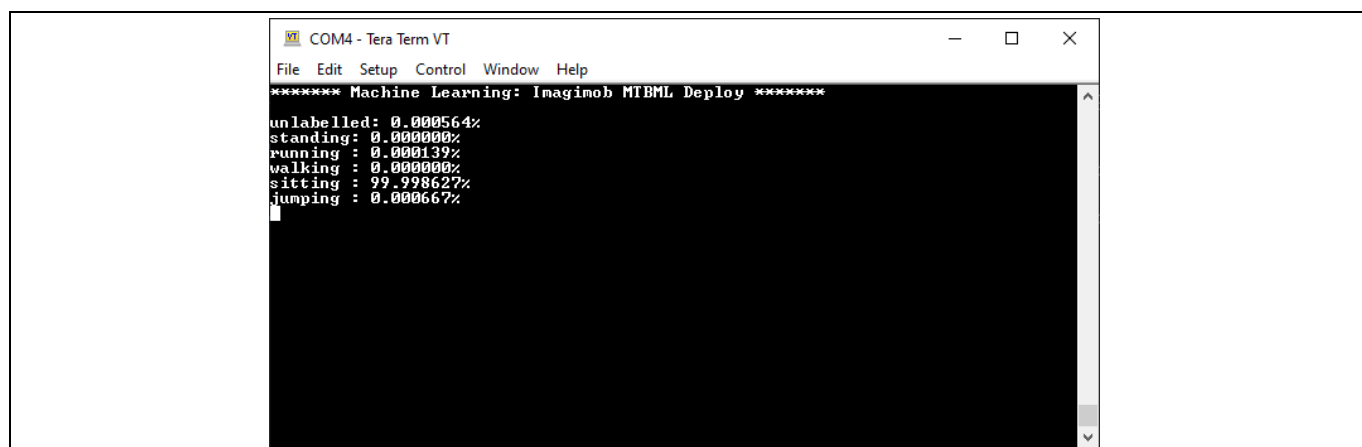

Figure 44 Inferencing result
- The terminal displays the inferencing result as shown in Figure 44. The example uses Human Activity Recognition model.